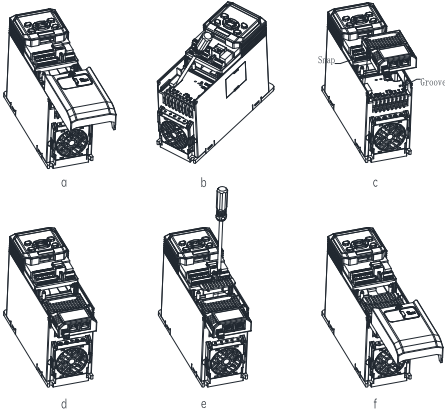

Fig. 5 EIP option installation steps
- (1) When the drive is powered off, press the granulated area on the middle-upper part of the lower cover, slide it down with a certain amount of force to remove the lower cover, as shown in Fig. 5-a.
- (2) Use a straight screwdriver to pry open the dust-proof cap, as shown in Fig. 5-b.
- (3) Install the EIP option: hold the expansion box (a bus card inside) upwards (indicators upwards), align the expansion box with the electrical bus interface in the installation position 2, and press down horizontally to buckle the spring snap of the expansion box into the groove at the lower part of the drive, as shown in Fig. 5-c and Fig. 5-d. Then, use the included retaining plate to secure the option and tighten it with screws (for enclosure B only), as shown in Fig. 5-e.
- (4) The bus option is successfully installed, as shown in Fig. 5-f.